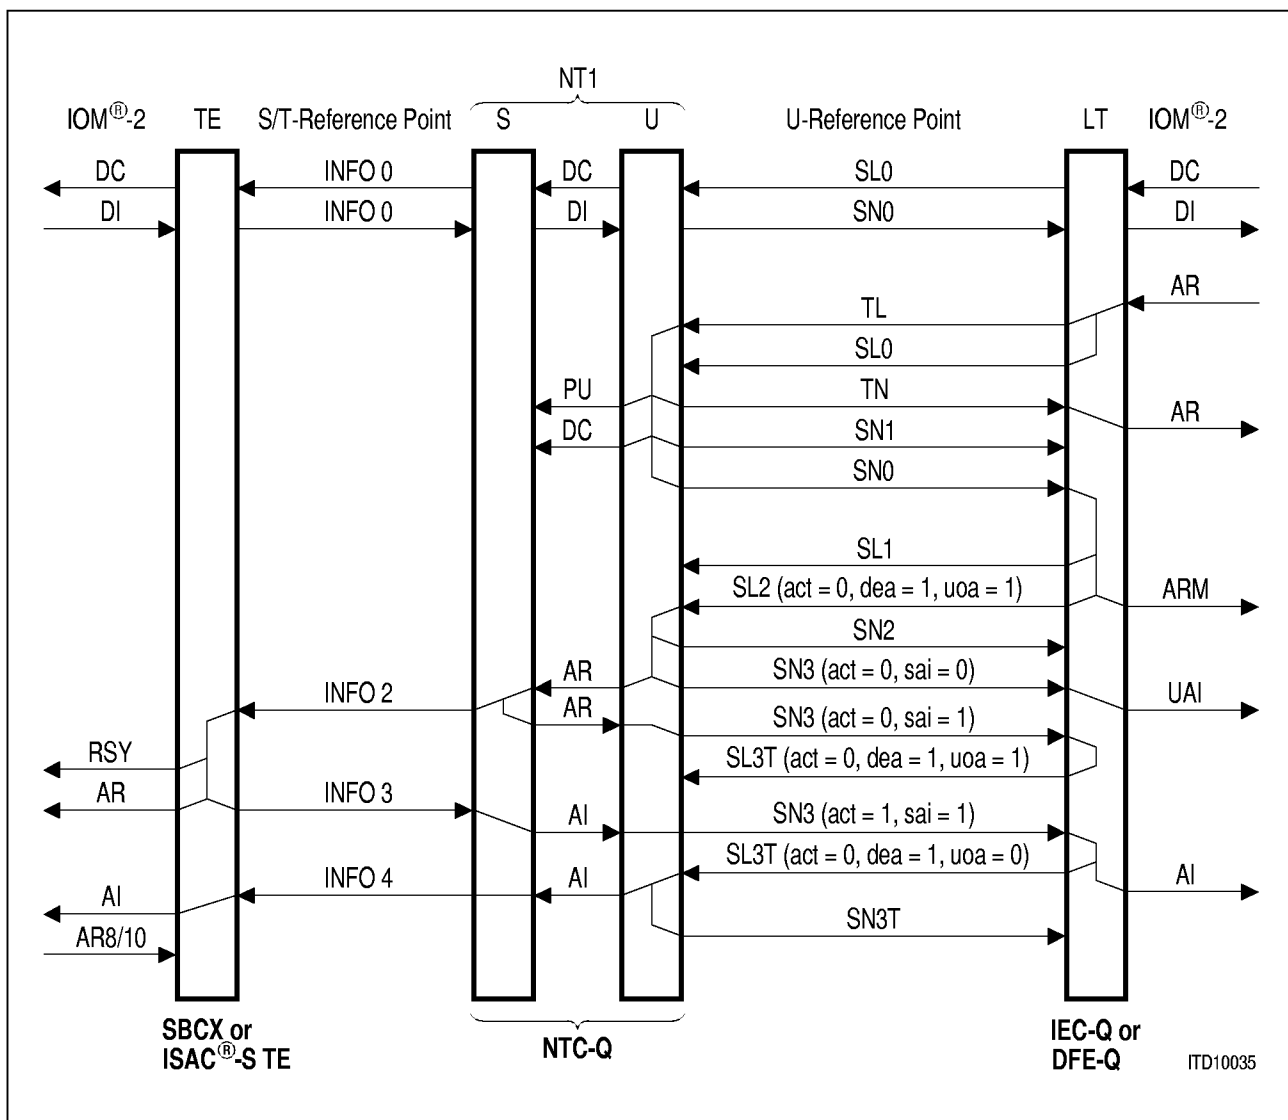

Figure 29 Complete Activation Initiated by Exchange
Figure 29 depicts the procedure if activation has been initiated by the exchange side (LT).